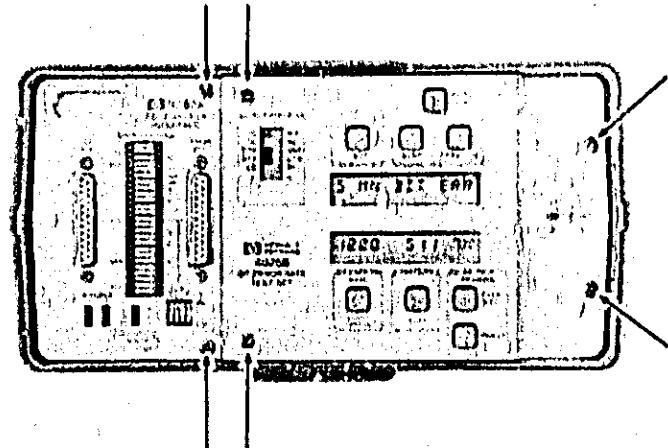

Figure 8-1. Front Panel Screw Location
1. Remove the four 6-32 screws from the HP 4925B front panel and the two 6-32 screws from the Interface. Figure 8-1 shows the screw locations.